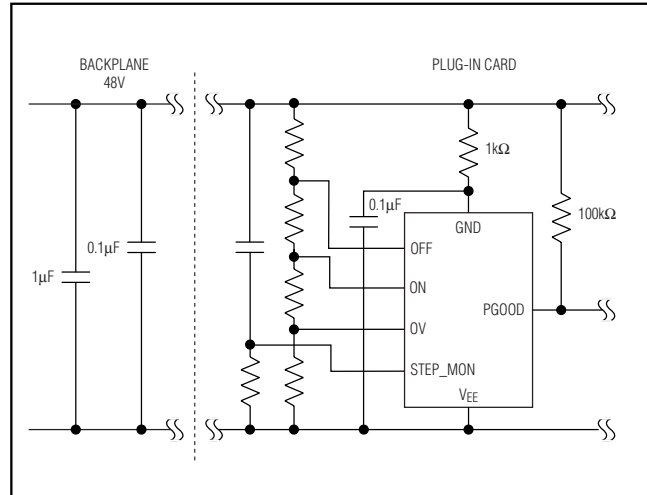

Figure 20. Protecting the MAX5938 Input from High-Voltage Transients
- 2) Add a high-frequency (ceramic) bypass capacitor on the backplane as close as possible to the plug-in connector (Figure 20).